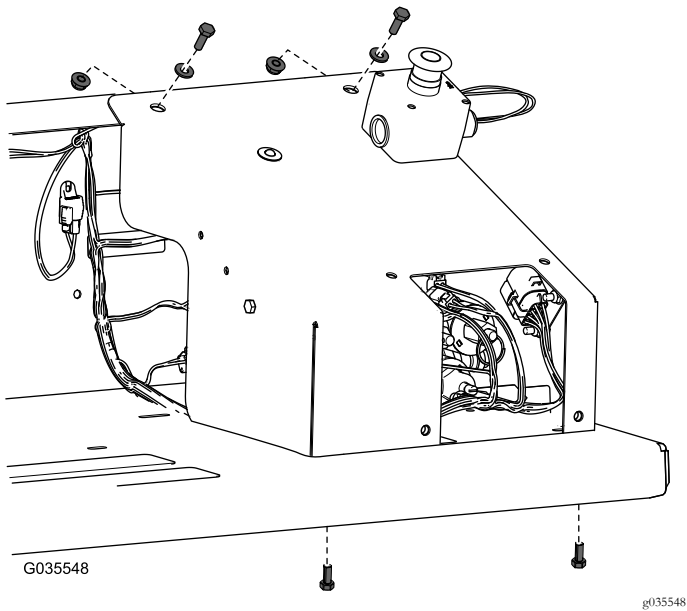

Figure 20
11. Secure the cover to the fender guard with the appropriate bolts, washers, and nuts (Figure 20).